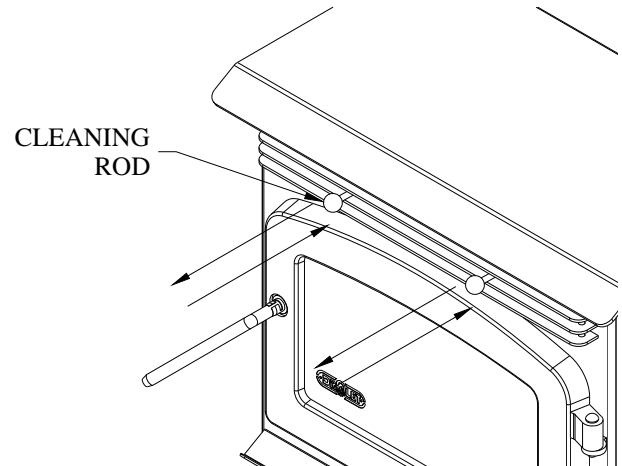

Figure 18
- c. With the door closed, clean heat exchanger tubes by activating the cleaning rod back and forth (Figure 18).
- a. **Heat Exchange Tubes** – Your ECO-35 stove is designed with a built-in heat exchanger tube cleaner. This should be used weekly to remove accumulated ash on the tubes. Slide the cleaning rod back and forth two or three times from front to back (refer to figure 18). When finished, push the cleaning rod back in.